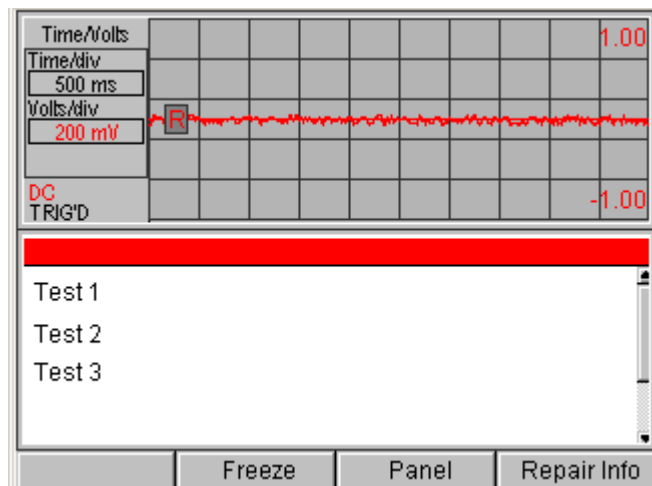
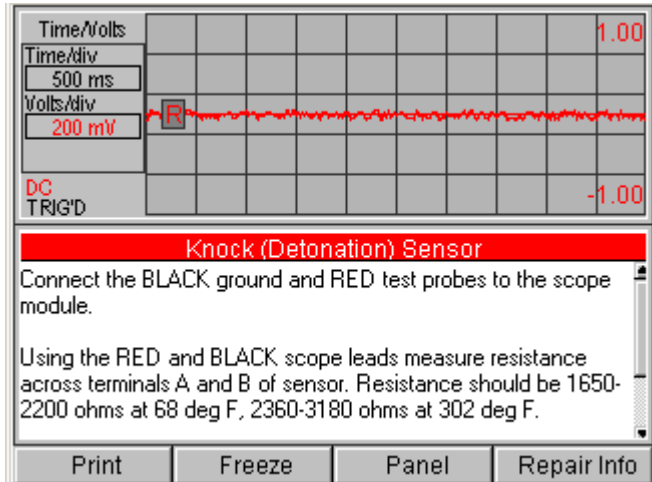
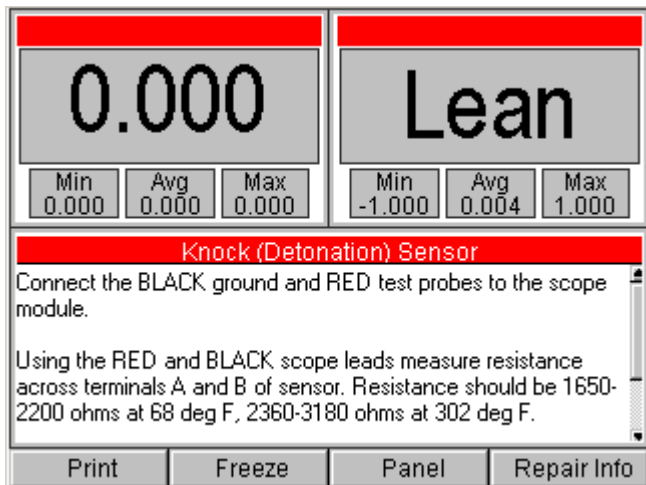

Figure 5.4: Component Test Screen with Test List in Bottom Panel
Figure 5.5: Component Test Screen with Scope Waveform in Top Panel and Test Instructions in Bottom Panel
Figure 5.6: Component Test Screen with Two DMM Readings in Top Panel and Test Instructions in Bottom Panel
The Scope with InfoTech software's Component Tests function lets you perform vehicle component testing. The Component Tests screens display Scope / Multimeter live test data and InfoTech test instructions on the same screen (see Figure 5.6 on page 25). This combines the functions of the Scope software and the InfoTech software so you can view test instructions while performing tests.
- 5 One or more additional screens may appear for identifying the component. On each screen that appears, **select the correct option** and then press the **ENTER** key. Do this until the component is completely identified and the test screen appears (Figure 5.4 or Figure 5.6).
NOTE: Depending on the test selected, the top half of the test screen displays either a scope waveform (shown above) or two digital multimeter (DMM) readings as described in step 7 (see Figure 5.5 and Figure 5.6).
- Use the screen for testing. The screen operates similar to the screen with test instructions displayed in the bottom half of the screen (Figure 5.5), or
- Select a **Test** and press the **ENTER** key. This displays the test screen with the InfoTech test instructions in the bottom half of the screen (Figure 5.5).
- The top half of the screen displays either a Scope waveform panel (Figure 5.5) or two DMM panels (Figure 5.6).